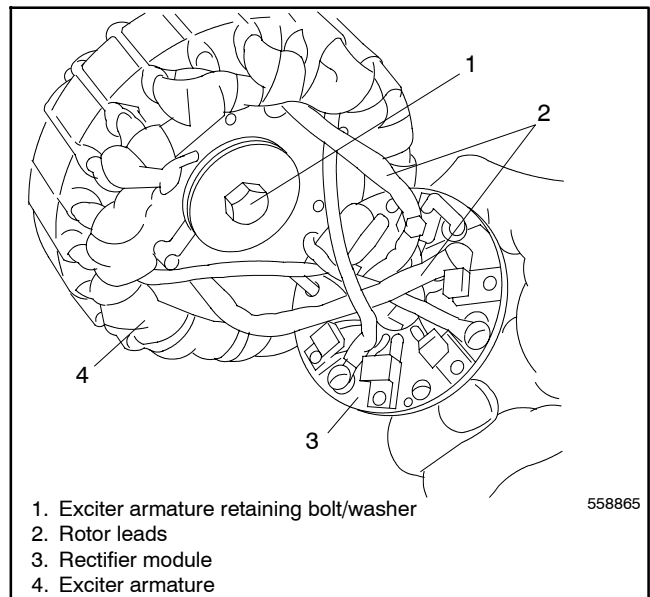

Figure 15-4 Armature Removal
- c. Disconnect the main field rotor leads from the rectifier module positive/negative terminals. Remove the exciter armature retaining bolt and washer. See Figure 15-4.
- d. Remove the exciter armature from the shaft, guiding the rotor leads through the open spaces in the exciter armature windings. See Figure 15-4.